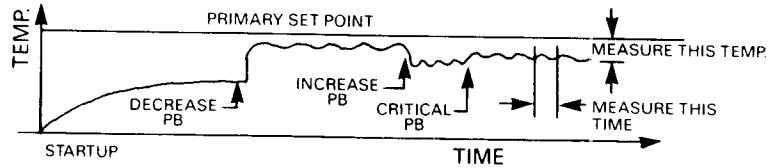

Figure 4-5. Oscillation Time
7. Measure the oscillation time, in minutes, between neighboring peaks or valleys (see Figure 4-5). This is most easily accomplished with a chart recorder, but a measurement can be read at one minute intervals to obtain the timing.